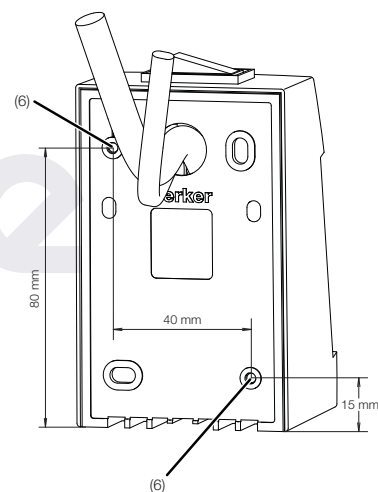

Figure 2: Dimensions for rear mounting of the complete device
- Fasten lower part of the integro Box to the mirror cabinet rear panel using suitable screws (1).
- Cover screw holes using the protective covers supplied (3).
- Fasten lower part of the integro Box to the mirror cabinet floor using suitable screws (2).
- Insert cables through the opening provided (4).
- Fasten cover to the lower part using the screws supplied (5).
The integro Box can also be screwed to the rear panel of the mirror cabinet in assembled state using the fastening points (6) provided (Figure 2). Suitable screws are available upon request.